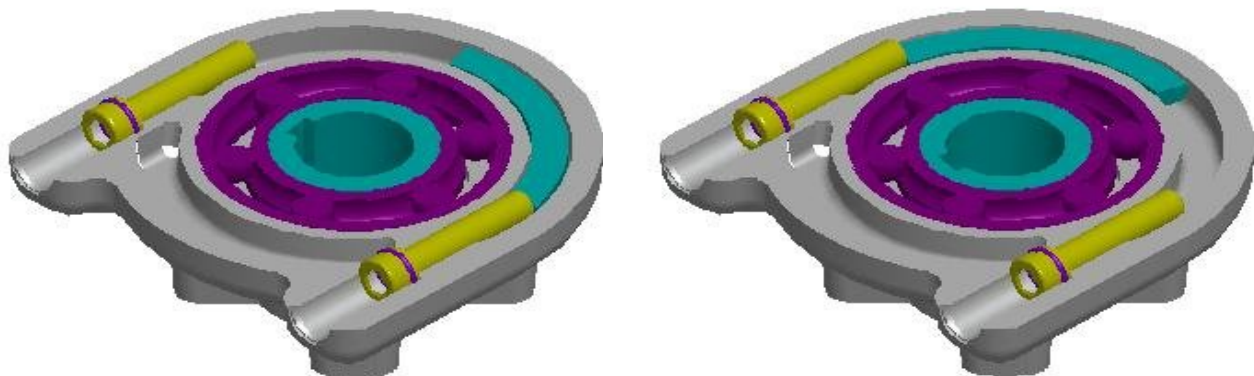

**Fig. 13**
- release both backstop screws in such way that their heads shall be on the same level as the opening edge (Fig.13)
*It is possible to increase (Fig.13) or decrease (Fig.14) the operating angle by  $26^\circ$  on adjusted EA by means of backstop screws, but you are loosing possibility of the output shaft position tuning. In doing so, the positioning unit must be adjusted to this angle and transmitter must be ejected from angle.*